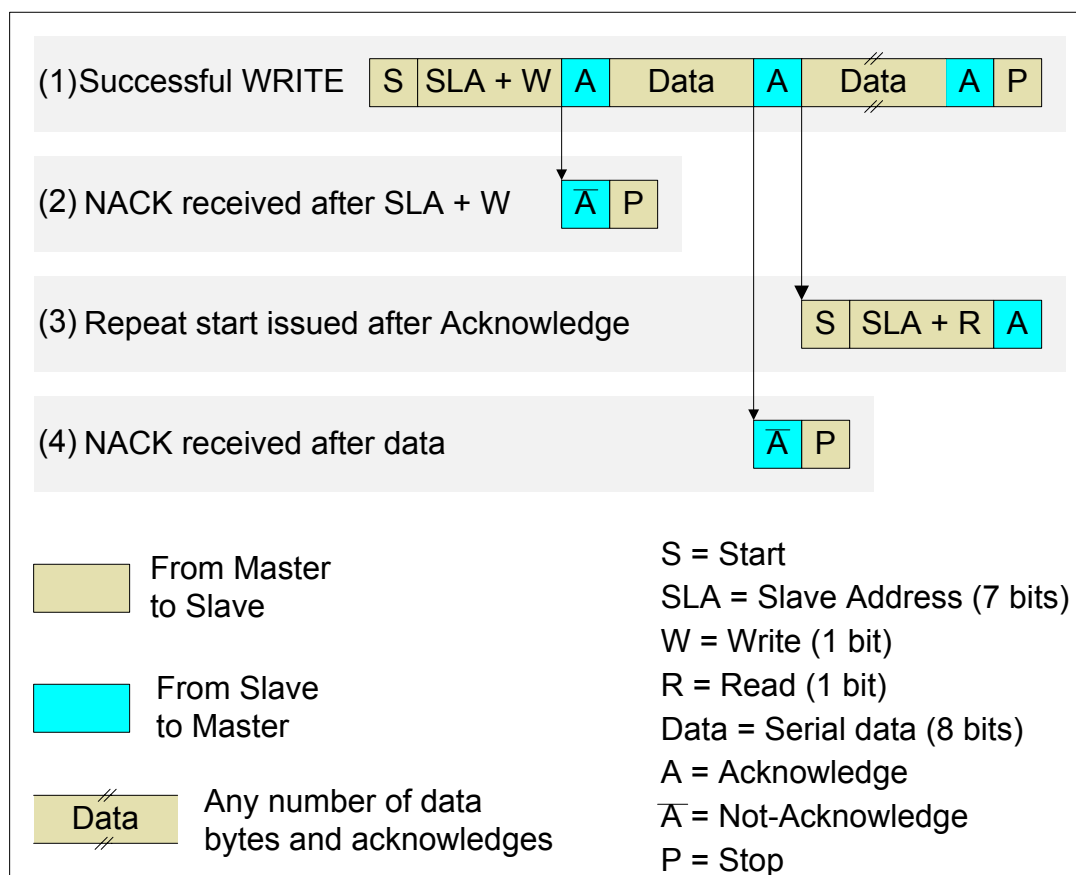

Figure 3. Typical WRITE Transfer Scenarios
4) Slave Receiver: In this role, a device receives a START followed by its own slave address + W from a master device. The device sends an ACK and enters slave receiver mode. The device now receives serial data on SDA and the clock on SCL. The device ACK's after each byte is received, and exits slave mode after the master issues a STOP. Figure 3 shows the typical WRITE scenarios. (1) shows a successful transfer.